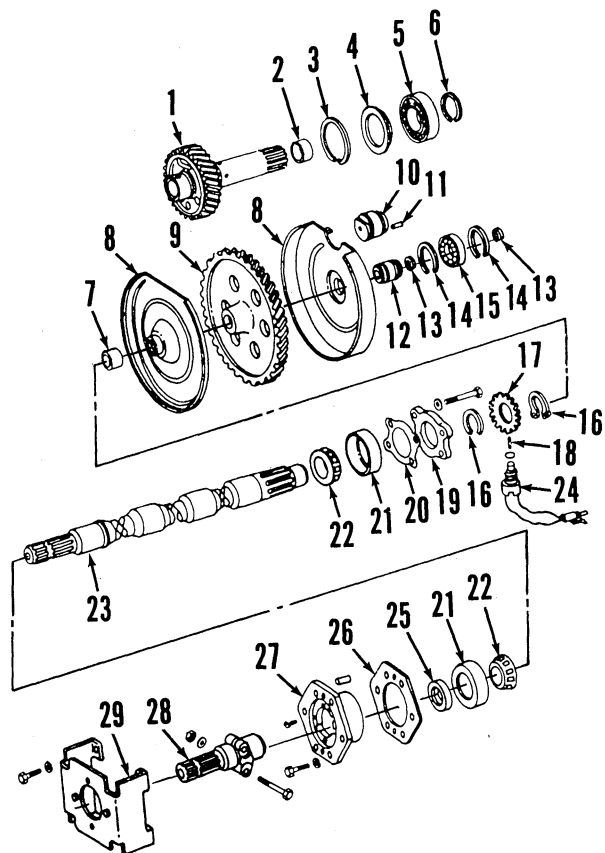

Fig. 211—Exploded view of single-speed pto power train components used on Model 4650 with Quad-Range transmission.
193. The single-speed (1000 rpm) pto drive train consists of a main drive gear (1—Fig. 211), which is contained in the clutch operating piston housing and driven by the pto clutch hub, and the pto drive gear (9) which drives the output shaft (23). The pto brake piston (10), located in the clutch operating piston housing, is applied against drive gear (9) when pto clutch is disengaged.
mended that an additional person hold pto drive gear (9—Fig. 211) forward when output shaft (23) is removed. Remove cap screws securing bearing retainer (27), then withdraw retainer and shaft from transmission case.
Secure shaft in a vise, then rotate bearing retainer in both directions to seat bearings. Install a dial indicator on retainer housing with indicator probe against end of output shaft, then move retainer forward and rearward and note indicator reading. Add or remove shims (20—Fig. 211) as necessary to obtain recommended end play of 0.001-0.005 inch (0.03-0.13 mm). Tighten retainer plate cap screws to 50 ft.-lbs. (68 N·m).
195. PTO DRIVE GEAR. To remove pto drive gear (9—Fig. 211), the tractor must be split between engine and clutch housing as outlined in paragraph 100 and the Quad-Range planetary removed as outlined in paragraph 105. Move drive gear and oil shield rearward to clear bearing sleeve (12), then lift gear and shield from clutch housing.